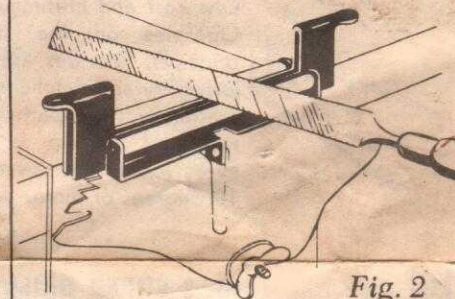
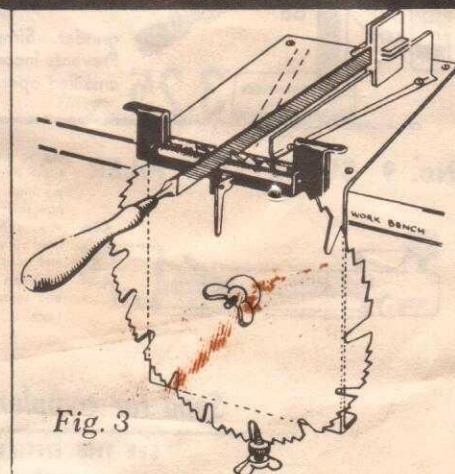
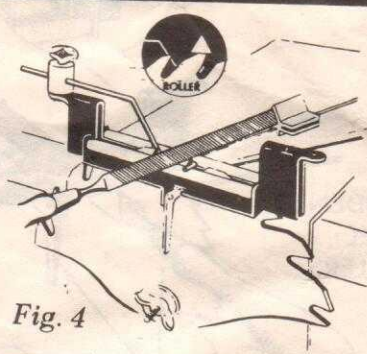
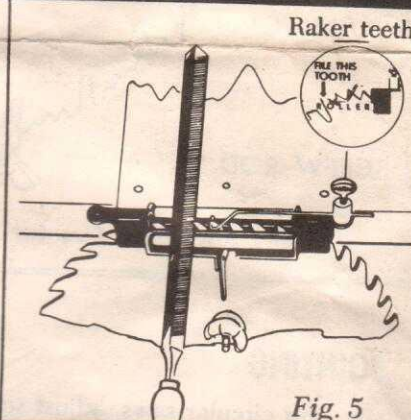

Fig. 2
Fig. 3
Fig. 4
Fig. 5
Place File Head on Guide Fin "B" as in Fig. 3. Angle and bevel of saw tooth should match file position. If they do not match, reverse saw blade. Place file between teeth to be filed. Note that there is a slight side play when File Head is on Guide Fin "B." Index by holding File handle so that File is in exact line with Guide Fin "B." Adjust Screw Rod "A" so that File is just a few thousandths of an inch above roller when on tooth. Lock blade with Wedge "C." Check again to see that File is in line with Guide Fin "B." File tooth until File touches roller. Point of tooth should be sharp; if not, re-adjust Screw Rod "A." Lock with Lock Nut. This adjustment must NOT be changed until after saw is filed on both sides. Alternate teeth are filed, following same procedure. Then move Guide Fin "B," reverse saw blade. Repeat filing operation. For filing Raker teeth see instructions on Rip Saws (Fig. 5).
2. If saw blade has been filed before, either free-hand or on equipment other than the No. 11 Super Saw Filer, the teeth are probably not evenly spaced, angle and bevel may be wrong, and blade needs jointing. These saw blades must first be jointed as illustrated in Fig. 2. File Head is then placed on Guide Fin "B" as pictured in Fig. 3. This will give correct angle and bevel but not proper indexing. Therefore it is necessary to hold saw blade with thumb and fingers of left hand while filing with right hand. File just enough to remove flat spot on point of tooth left by jointing operation. Alternate teeth are filed. Then move Guide Fin "B" and reverse saw blade. Repeat filing. When finished, teeth will be sharp, with correct angle and bevel, although possibly spacing will not be even. Filing to jointing mark will keep blade round. Adjust Screw Rod "A" so that File barely clears depth control rollers. For filing Raker teeth see instructions on Rip Saws (Fig. 5).
These blades are easiest of all types to sharpen. First, joint any two adjacent teeth, (Fig. 2). Position jointed tooth with set facing away from you, so that cutting edge of tooth is at highest point of circle. Watch this carefully. Back of teeth only are filed. Be sure bevel and set of tooth selected match File position when flat side of File is on Guide Fin "B" (Fig. 4.) If not, reverse saw blade. Adjust Screw Rod "A" so that File is about  $\frac{1}{16}$ " above rollers. Lock blade with Wedge "C." (Note: Bevel on tooth usually does not exceed  $\frac{1}{4}$ ". After repeated filings it may be necessary to reshape back of tooth to reduce bevel to  $\frac{1}{4}$ " or less. This is done free-hand. Reshaping also makes tooth easier to set.) File this tooth until flat spot made by jointing just disappears and point is sharp. It is not necessary for File to touch rollers at this time. Now loosen Wedge "C" and adjust Screw "A" until File touches rollers when held on tooth just filed. Be sure bevels of tooth and File match; then lock Wedge "C" again. Screw Index Holder tightly on File frame as pictured, so that Index Wire will be in gullet of tooth just filed. Lock Index Wire securely with thumb screw. When properly installed Index Wire will operate as a ratchet when blade is rotated.